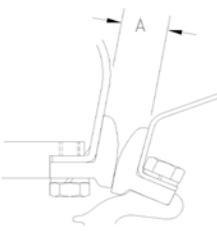

Fig. 2	CONTACTOR SIZE		A
1. With all power removed, pivot the arc shield (3) upwards.
2. Check that the movable (8) contact tip is against the ledge located on the movable contact holder (36) (see Fig. 2).
3. Make sure the stationary contact tip (8) is located on the stationary contact bracket (30). (Fig. 2)
4. The contact tip surfaces must be aligned both vertically and horizontally. (Fig 2.)
5. Pivot the arc shield (3) back to the fully downward position.
The contact tips should be replaced when the contacts are worn down to dimensions shown in Figure 2.